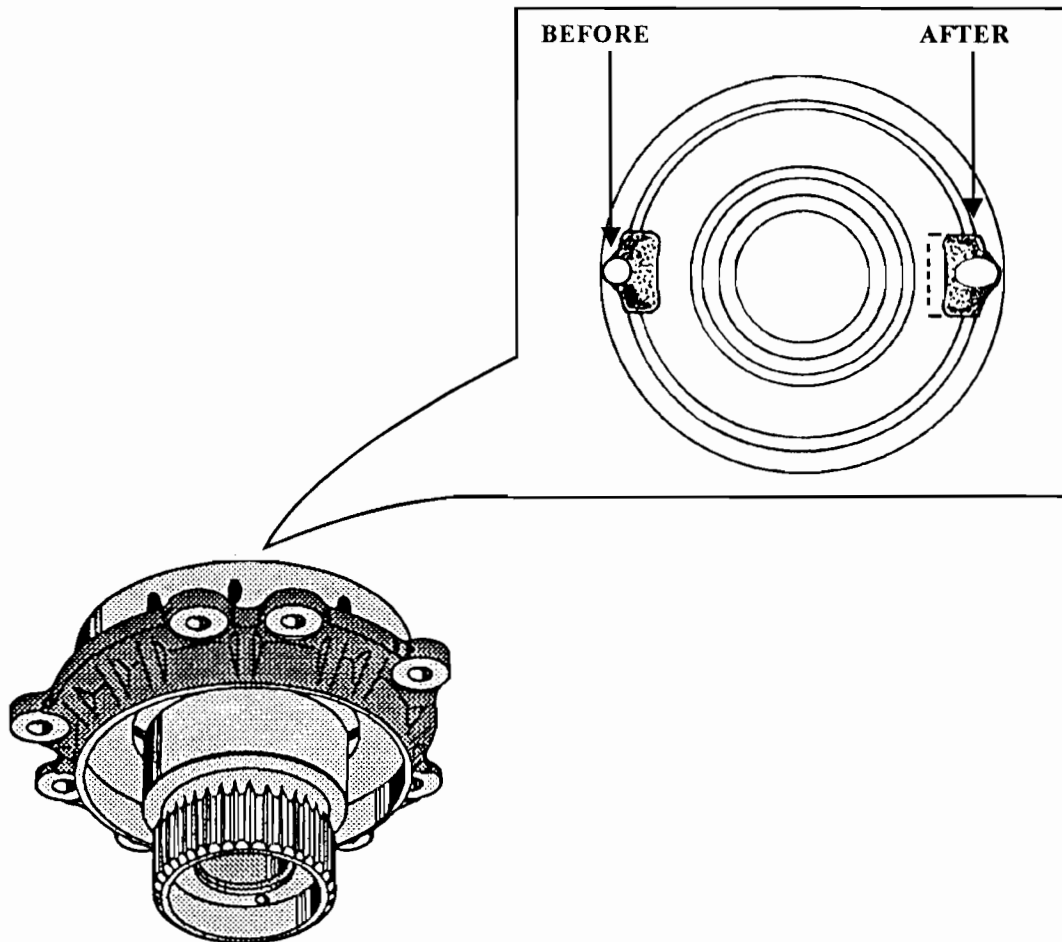

Figure 39
**CORRECTION:** **A:** Remove Stator Support and bearing race. With Drill or Die Grinder enlarge and deepen the factory drainback passage in the "Rear" of the Stator Support as shown in Figure 39. Notice the drainback hole and the passage to "Dotted Line" enlarged.